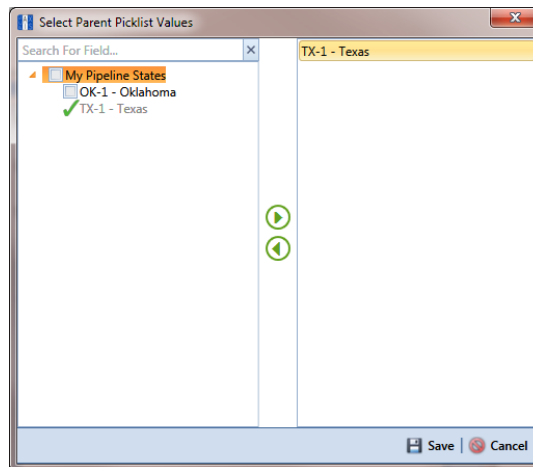

Figure 3-56. Select Parent Picklist Values
- d Map a data item in the parent picklist to the currently selected data item in the child picklist. A list of data items related to the parent picklist display in the left pane of the dialog box (Figure 3-56).
- d Map a data item in the parent picklist to the currently selected data item in the child picklist (Figure 3-56, page 106). Click  **Save** when you finish to save settings and close the dialog box.
- 2) Map a data item in the associated parent picklist to the new data item in the child picklist in the following manner. A list of data items related to the parent picklist display in the left pane of the dialog box (Figure 3-56, page 106).